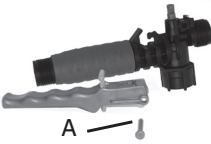

Figure 2
2) Remove the retaining pin [A] (Figure 2) place the notched end of the retaining pin on a hard surface and push down. Remove the retaining pin and slide the handle off the valve.